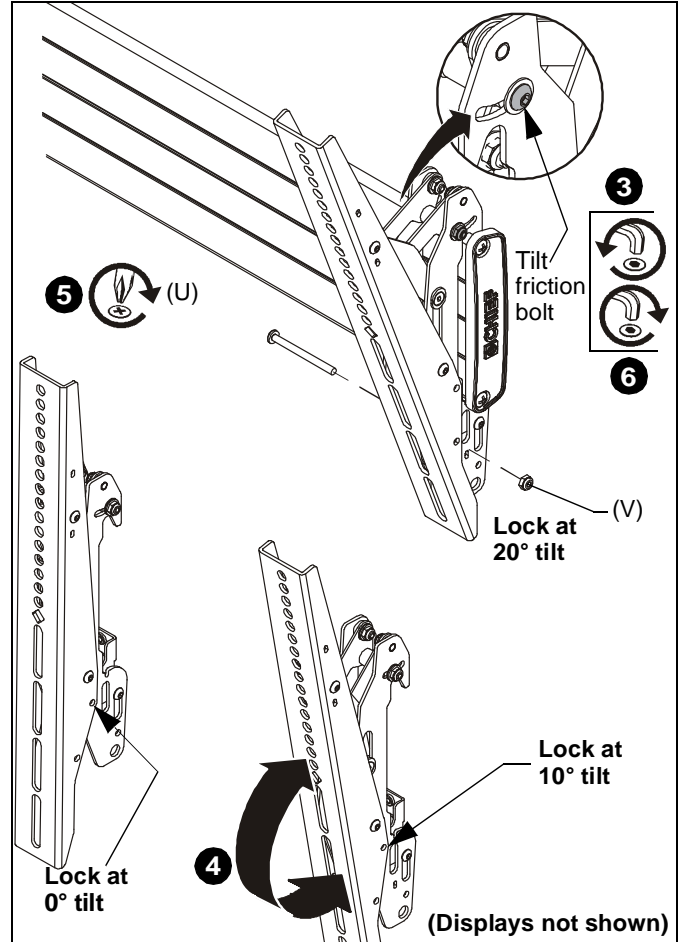

Figure 16
3. If necessary, loosen buttonhead tilt friction bolt (located on side of interface bracket). (See Figure 16)
4. Adjust tilt as required. (See Figure 16)
5. The tilt may be locked at 0°, 10° and 20° using one 10-24 x 2-1/4" Phillips head screw (U) and one 10-24 lock nut (V) per interface bracket. (See Figure 16)